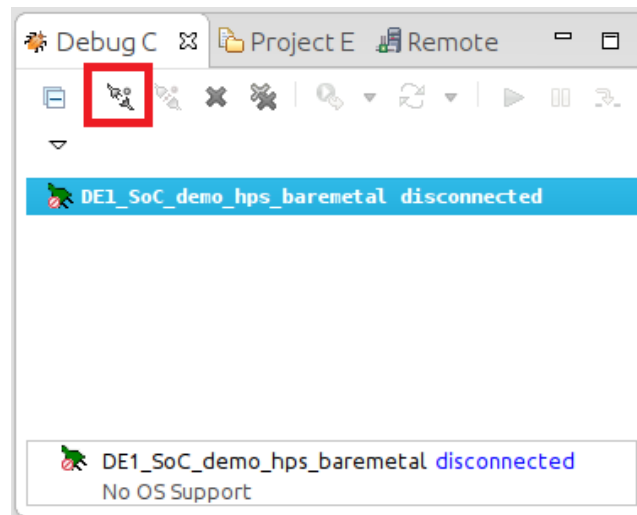

Figure 8-38. Debug Control View
23. In the "Debug Control" view, click on the "DE1_SoC_demo_hps_baremetal" entry, then click on the "Connect to Target" button, as shown on Figure 8-38. Our debug script will load and execute the preloader, then it will load and wait at our application's "main()" function.